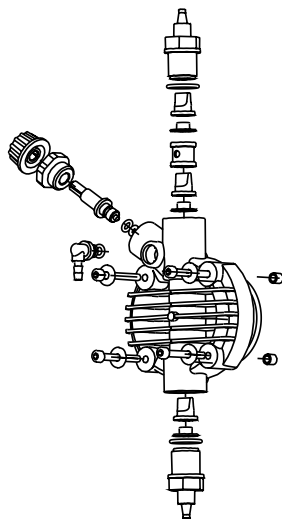

Fig. 11
- the additive concentration in the pipework; a reduction of this concentration could be caused by the wearing of the valves, in which case they need to be replaced (Fig. 11) or by the clogging of the filter which then has to be cleaned as in point 3 here below.
This operation can also be done with the pump disconnected from the plant by turning the pump upside-down for 15 to 30 seconds and without connecting the hose to the nipples; if impossible, dismount and remount the pump head (Fig. 11) using the four mounting screws.
As the system is quite robust there are no apparent mechanical problems. Occasionally there might be a loss of liquid from the nipple because the tube nut has loosened, or more simply the discharge tubing has broken. Very rarely there may be losses caused by the breakage of the membrane, or by the membrane seals in which case they have to be replaced by disassembling the four screws of the pump head (fig. 11), when re-mounting the pump head ensure that the screws are replaced properly, along with "O" ring. After repair, the metering pump will need to be cleaned of additive residues which can damage the pump casing.
- a. Dismount the suction and discharge valves, clean them and replace, see position (fig. 11). Should the valves be swollen, check valves material against our chemical resistance compatibility chart and fit correct valves. Standard valves are Viton. Upon request Silicon, EPDM (Dutral), Nitril and valves, ball check valve, K valve can be supplied.